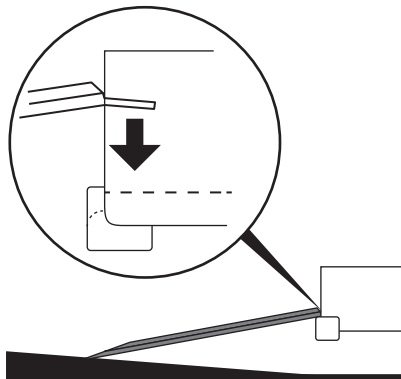

Figure 9
4. Place the ramp fingers or plate edges on the edge of the trailer or truck bed (Figure 9).